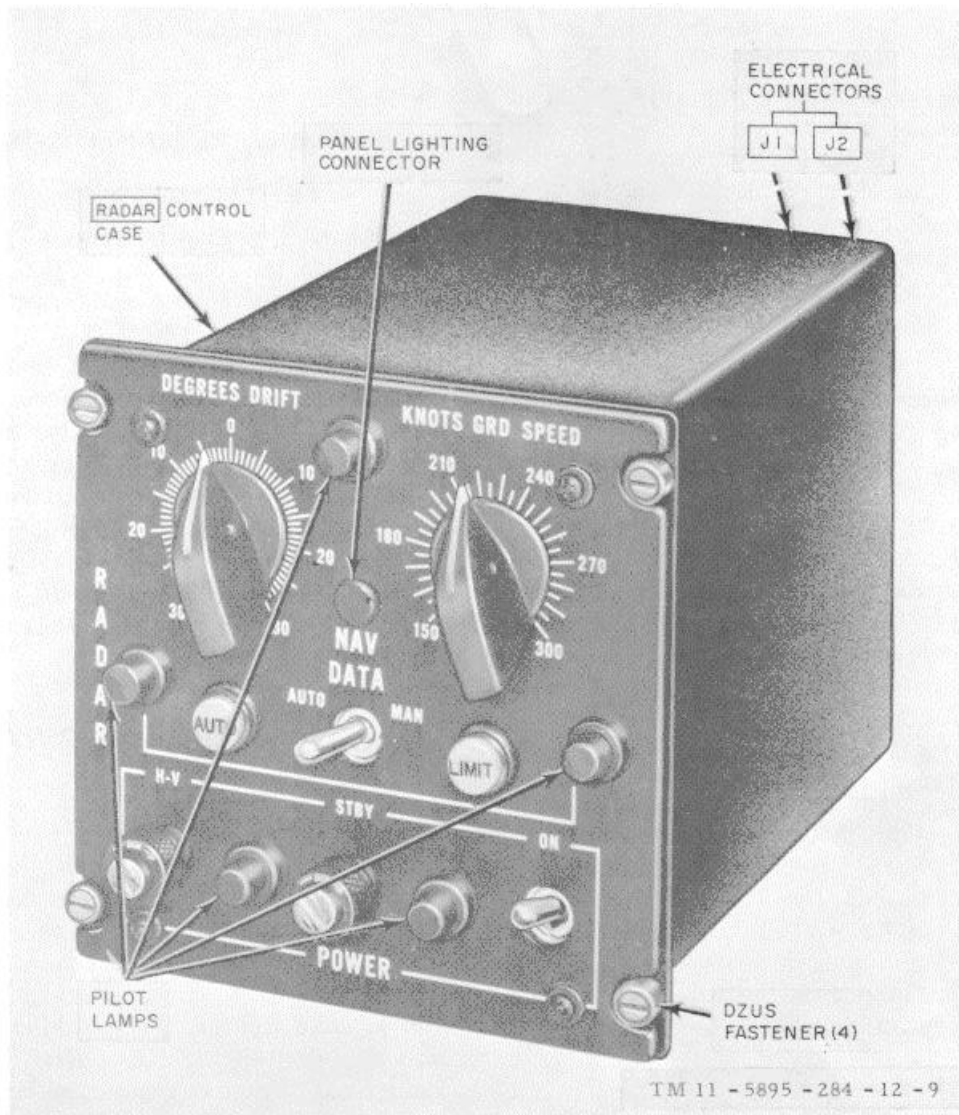

Figure 1-11. Control, Radar Set C-2996/APS-94.
(fig. 1-11)
(3) *Synchronization.* The trigger generated by the comparator enters a timing circuit in the synchronizer that counts the triggers and switches antennas (through the antenna gate generator and duplexer (ferrite switch circulator) every 16 triggers when both antennas are being used. Another function of the trigger-controlled timing circuit is to drive the synchronizer sweep generator, and thereby to initiate the indicator crt (ft and mt) sweep signals. Drift-angle data from the Doppler navigator (para 1-26d) are fed automatically into the synchronizer sweep generator to synchronize the sweep signals fed to the indicator ft and mt cathode-ray tubes when the RADAR control NAV DATA switch (fig. 1-11) is at AUTO. The drift-angle data are fed manually into the sweep generator by the adjustment of the RADAR control DEGREES DRIFT knob when the NAV DATA switch is at MAN.
left or right by the sweep signals from the sweep generator. The polarity of these signals is determined by the synchronizer antenna gate generator to correspond in direction to the antenna in use. Photographic films in the recorder are mechanically moved past the lens-produced images of the crt traces. The movement rates of the photographic films are proportional to the dial setting of the RADAR control KNOTS GRD SPEED control knob when the NAV DATA switch is at MAN. Groundspeed data from the Doppler navigator (para 1-26d) are fed automatically into the RECORDER, thereby synchronizing the mechanical movement of the photographic films in the recorder at a rate proportional to the groundspeed of the aircraft when the RADAR control NAV DATA switch is at AUTO (fig. 1-11).